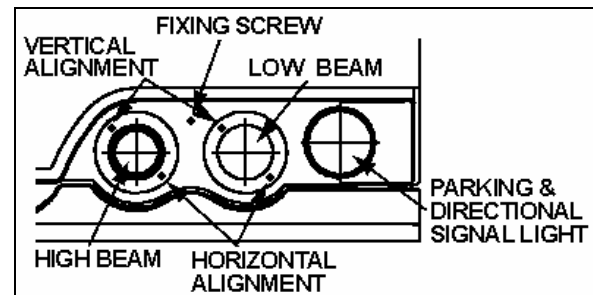

FIGURE 27: HEADLIGHT ASSEMBLY
Headlight aim should be checked after installing a new bulb. Aiming can be performed without opening headlight assembly. Horizontal and vertical aiming of each module is provided by two adjusting screws that pivot the module in the housing for proper alignment (fig. 27). There is no adjustment for focus since the module is set for proper focus during manufacturing assembly.
2. Remove the headlight screw fixing the headlight assembly, then tilt headlight assembly down (Fig. 27 and 28).